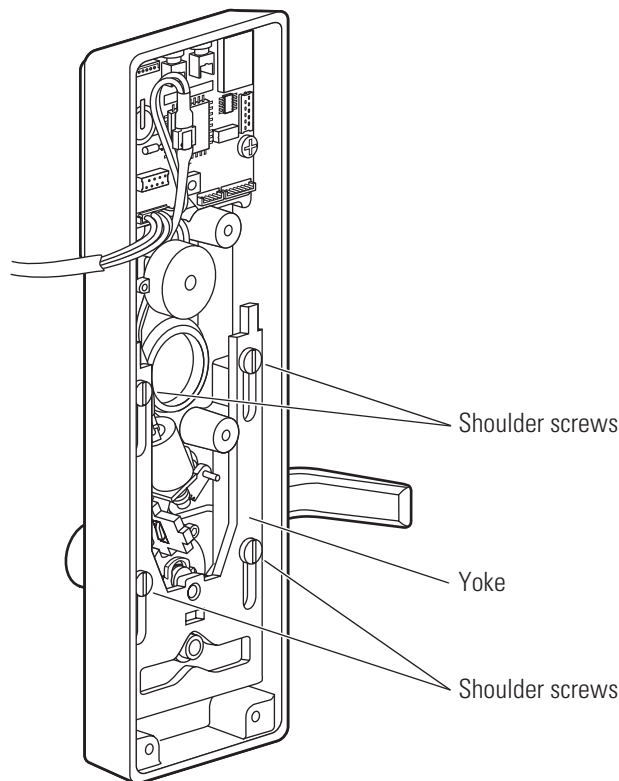

Figure 10.12 Removing and reinstalling the yoke (B.A.S.I.S. escutcheon shown)
2. Unscrew the 4 shoulder screws and discard. See Figure 10.12.
3. Tightly secure the yoke to the escutcheon using the 4 new shoulder screws (20–25 lbs. torque). See Figure 10.12.